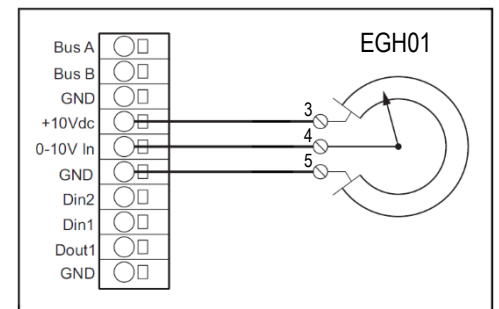

Fig. 3-16: Potentiometer connection
- Connection of potentiometer according to fig. 3-16